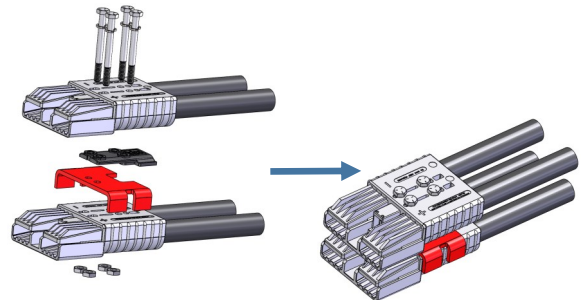

Figure 2
6. Align 2 Connector Housings, Spacers, Battery Bracket and insert 2 $\frac{3}{4}$  inch Hex Bolts shown (see figure 2).